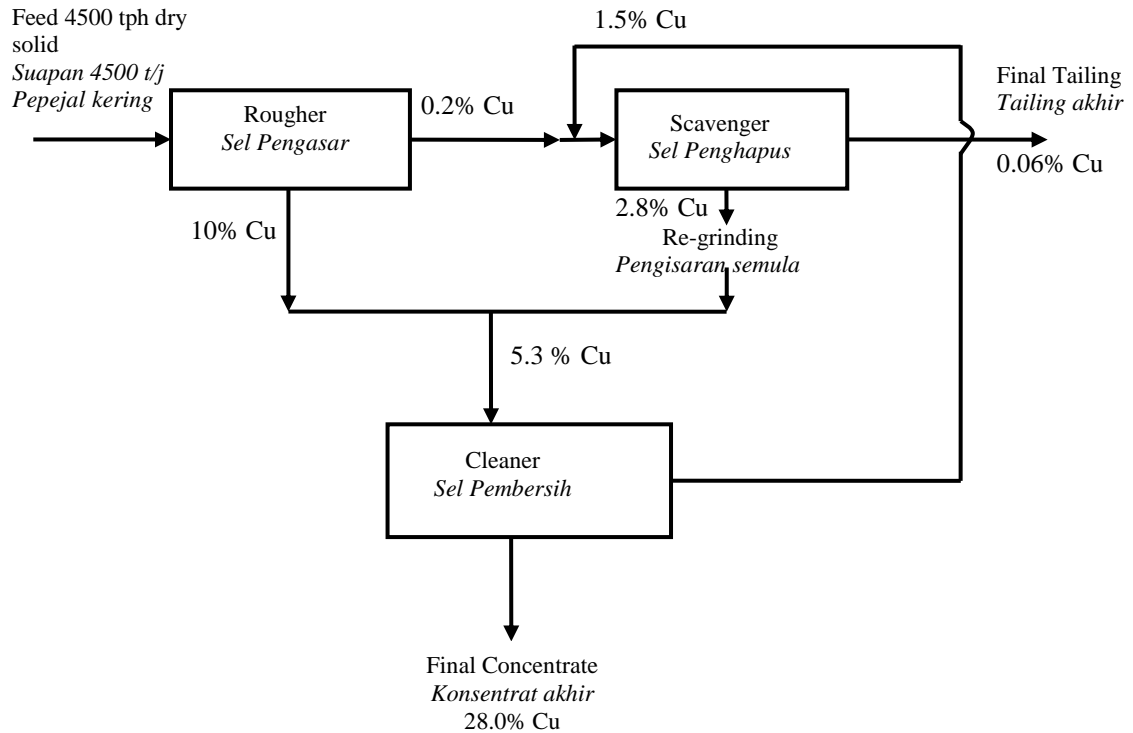

Figure 2/Rajah 2
- (4). The flowsheet of processing a chalcopyrite ore by froth flotation as shown in **Figure 2** was operated at steady-state with 4500 tph of dry solid in the feed. From surveying the circuit, copper grade (%Cu) were obtained to calculate the performance of the circuit.